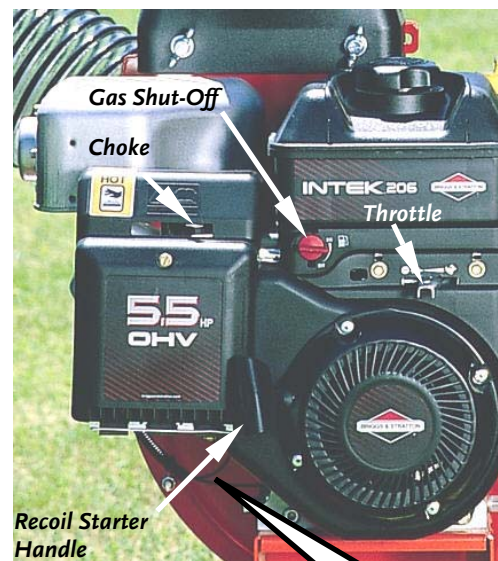

Figure 19
4. Turn the Gas Shut-Off valve to the OPEN position (**Figure 19**).
1. When starting a cold engine; push the Choke Control lever to the right (CHOKE) and the Throttle Control lever to the far right (**Figure 19**).
3. After the engine starts, slowly push the Choke Control lever to the left (RUN) position. Wait until the engine runs smoothly before each choke adjustment (**Figure 19**). For best engine performance, it is recommended that the engine be operated with the throttle in the fast (Rabbit) position (**Figure 19**).
4. **To stop the engine**, move the Throttle to the slow (Turtle) position allowing the engine to idle, then move the lever to STOP (Stop Sign) position (**Figure 19**).